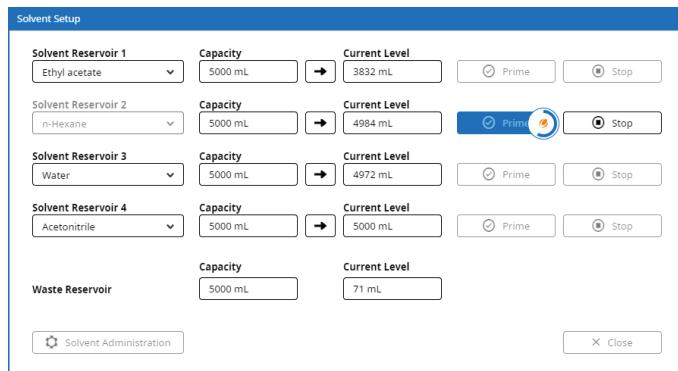

Figure 9. The Solvent Setup window with solvent and waste monitoring enabled.
2. Assign a solvent to each solvent inlet using the solvent drop-down lists (see Figure 9).
2. Prime the solvent inlets by pressing the corresponding **Prime** buttons (see Figure 9). Note that 27 mL of the assigned solvent is used for each prime.